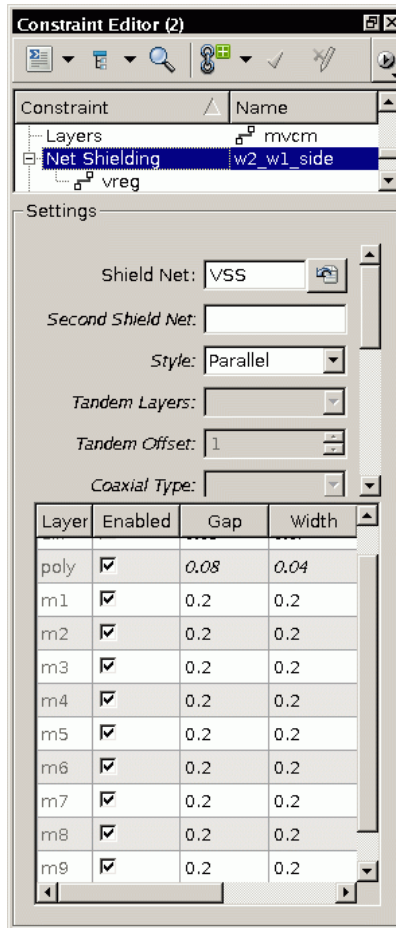

Figure 7 Constraint Editor Window
- Observe that shield width and spacing values match IC Compiler values as shown in Figure 7.